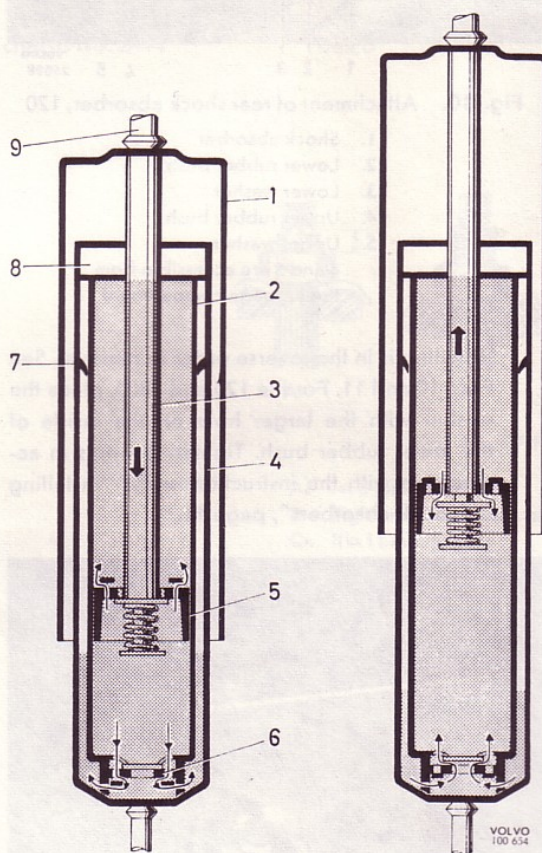

Fig. 9. Shock absorber
The design of the shock absorbers is shown in Fig. 9. The outer cylinder serves only as a protection against dust and dirt. The other two cylinders (2) and (4) are concentrically arranged, one inside the other. The inner cylinder (2) is the actual working cylinder, the lower end of which is provided with a valve (6). Inside the inner cylinder there is a piston (5) in which holes are drilled, the passage of oil through these holes being controlled by valves.